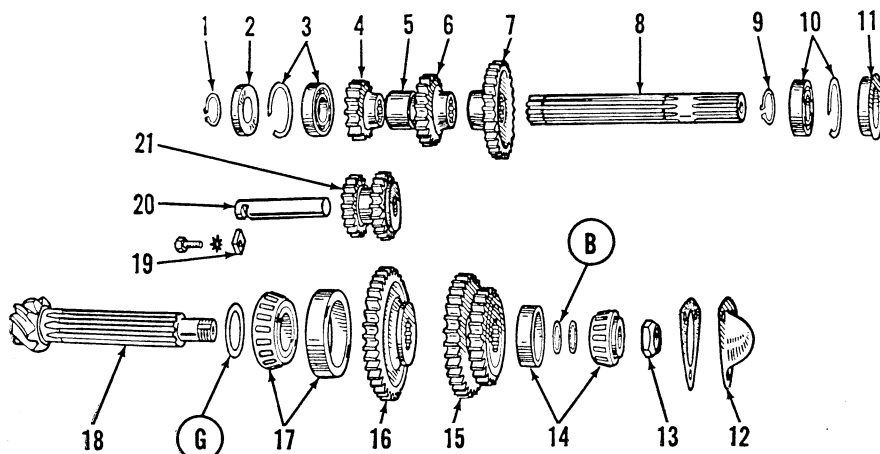

Fig. MH23—Pony transmission assembly. Shims (B) are for bevel pinion shaft bearing adjustment. Shims (G) are for mesh adjustment of main drive bevel gears.
51. **BEVEL PINION (SLIDING GEAR) SHAFT.** This shaft (18—Fig. MH23) may be removed either before or after removal of input shaft (following paragraph), but it is recommended that it be removed first so that shaft can be locked in two gears at
56. Bevel pinion shaft and bevel ring gear are supplied as a matched set and must not be renewed separately. Adjust mesh of these bevel gears as follows: Install bevel pinion shaft and differential. Coat pinion teeth with red lead or prussian blue and rotate the pinion. Observe the impressions on ring gear teeth caused by contact of bevel pinion teeth. If bevel pinion teeth contact center of ring gear teeth as shown in Fig. MH26, they are correctly meshed; if not, add or remove shims (G- Fig. MH23) between bevel pinion and bevel pinion shaft rear bearing cone (17) to move the bevel pinion into correct mesh position. Note: In order to retain correct pre-load on bevel pinion shaft bearings, whatever thickness of shims (G) is added or removed from the shaft, the same amount of shims (B) should be added or removed. Recheck backlash after mesh adjustment is completed.